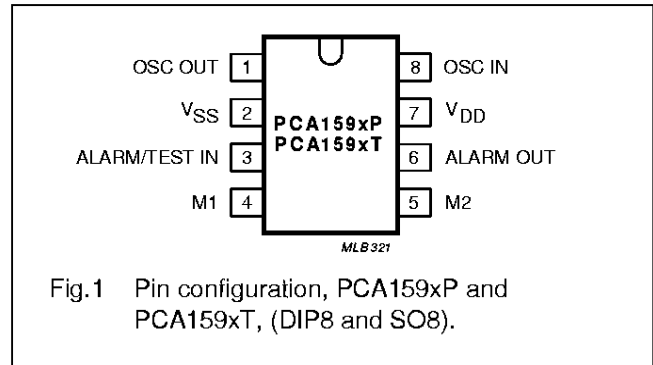

Fig.1 Pin configuration, PCA159xP and PCA159xT, (DIP8 and SO8).
1. Figure 1 and Chapter "Package outlines" show details of standard packages, available for large orders only. Chapter "Chip dimensions and bonding pad locations" shows exact pad locations for other delivery formats.